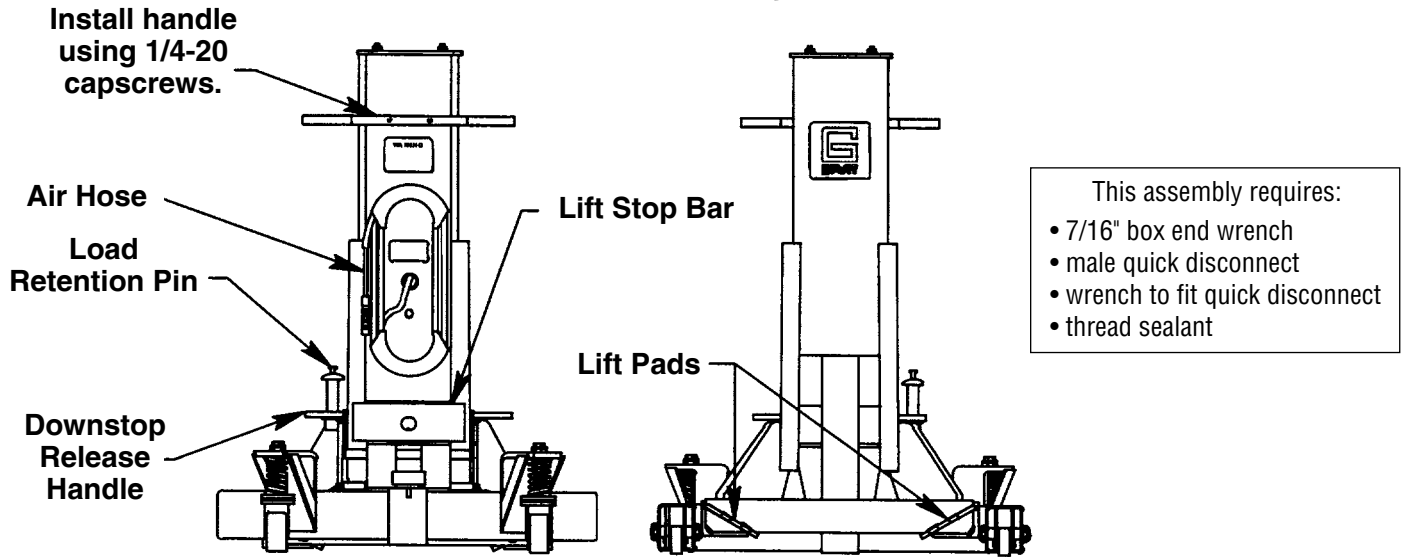

Figure 1
1. Using two of the 1/4-20 cap screws per lift, attach a handle horizontally across the back of each lift as shown in Figure 1.